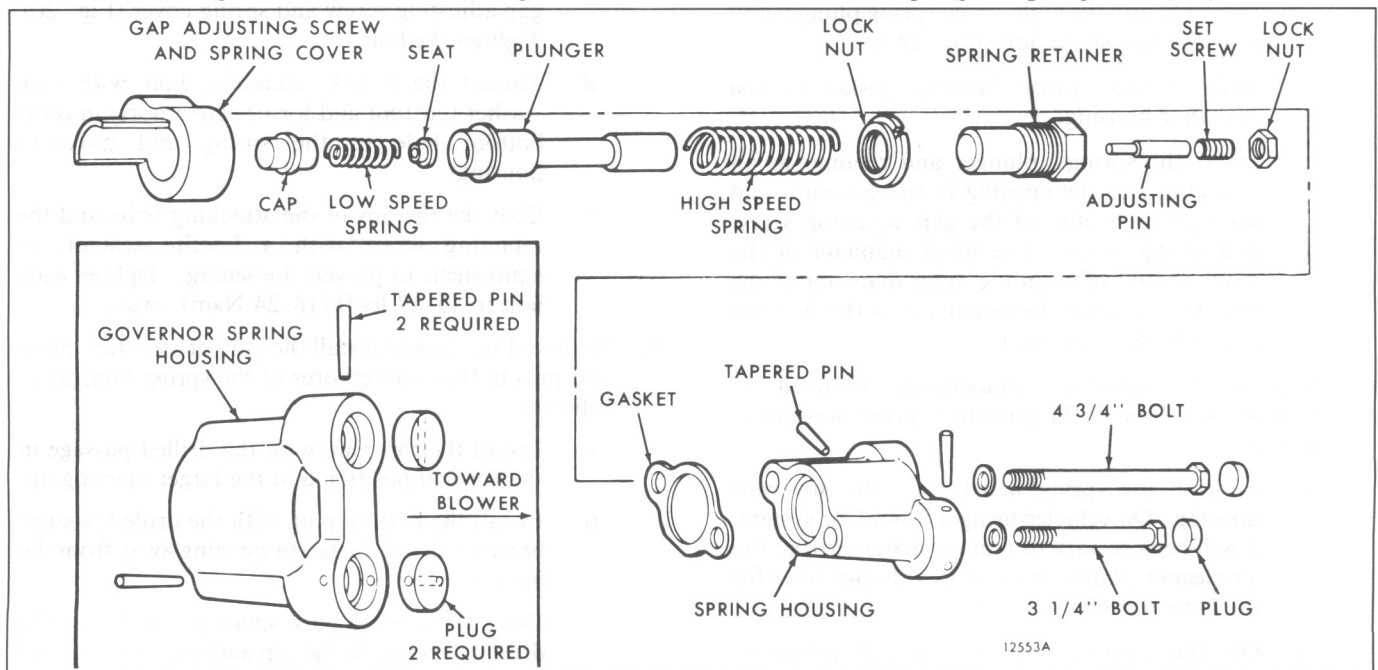

Fig. 20 - Tamper-Resistant Governor Components (Former)
The new governor spring housing has one inch of additional metal resembling two bosses cast on the bolt head of the housing (Figs. 20 and 21). These bosses are counterbored to accept the two bolts which hold the spring housing on the governor housing and to allow for the installation of plugs over the bolt heads. The plugs are secured in the counterbores by tapered pins which, when driven in place, cannot be removed when the governor is mounted on the blower. In order to remove the pins to get to the spring housing retainer bolts, the complete governor must be removed from the blower.
3. Refer to Figs. 20 and 21 and install the gap adjusting pin and set screw and spring cover and spring assemblies in the governor housing as follows:
- b. On the former tamper-resistant governor, place the gap adjusting screw and spring cover (Fig. 20) in the governor housing with the threaded bolt hole up and in position to receive the spring and plunger assembly.
- b. On the current tamper-resistant governor, insert one of the 3-1/4" attaching bolts with copper washer through the top bolt hole in the spring housing and thread it into the threaded hole in the former gap adjusting screw and spring cover (Fig. 20). Tighten the bolt.
- c. On the former tamper-resistant governor, insert the 4-3/4" attaching bolt with copper washer through the top bolt hole in the spring housing and thread it into the threaded hole in the former gap adjusting screw and spring cover (Fig. 20). Tighten the bolt.
5. Refer to Fig. 20 and install the tamper-resistant plugs and pins in the counterbores of the spring housing as follows:
5. Refer to Figs. 20 or 21 and install the tamper-resistant plugs and pins in the counterbores of the spring housing as outlined under Step 5, Items a through c above.
NOTICE: If the spring housing of a former tamper-resistant governor (Fig. 20) is removed for any reason, the gap adjusting screw and spring cover will fall into the governor housing. Therefore, it is important to remove the governor cover and lever assembly and check to make sure that the gap adjusting screw and spring cover is secured by the 5/16"-18 x 4-3/4" bolt after the spring housing is reinstalled.